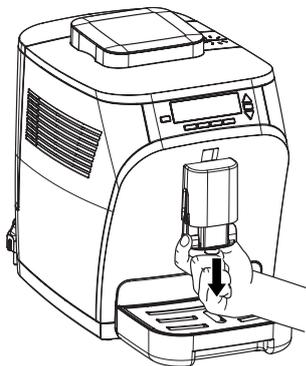

fig. 9: Removing the coffee-milk dispenser
9. Remove the coffee-milk dispenser by pulling the whole part out of the guide towards the bottom using the handles (fig. 9).